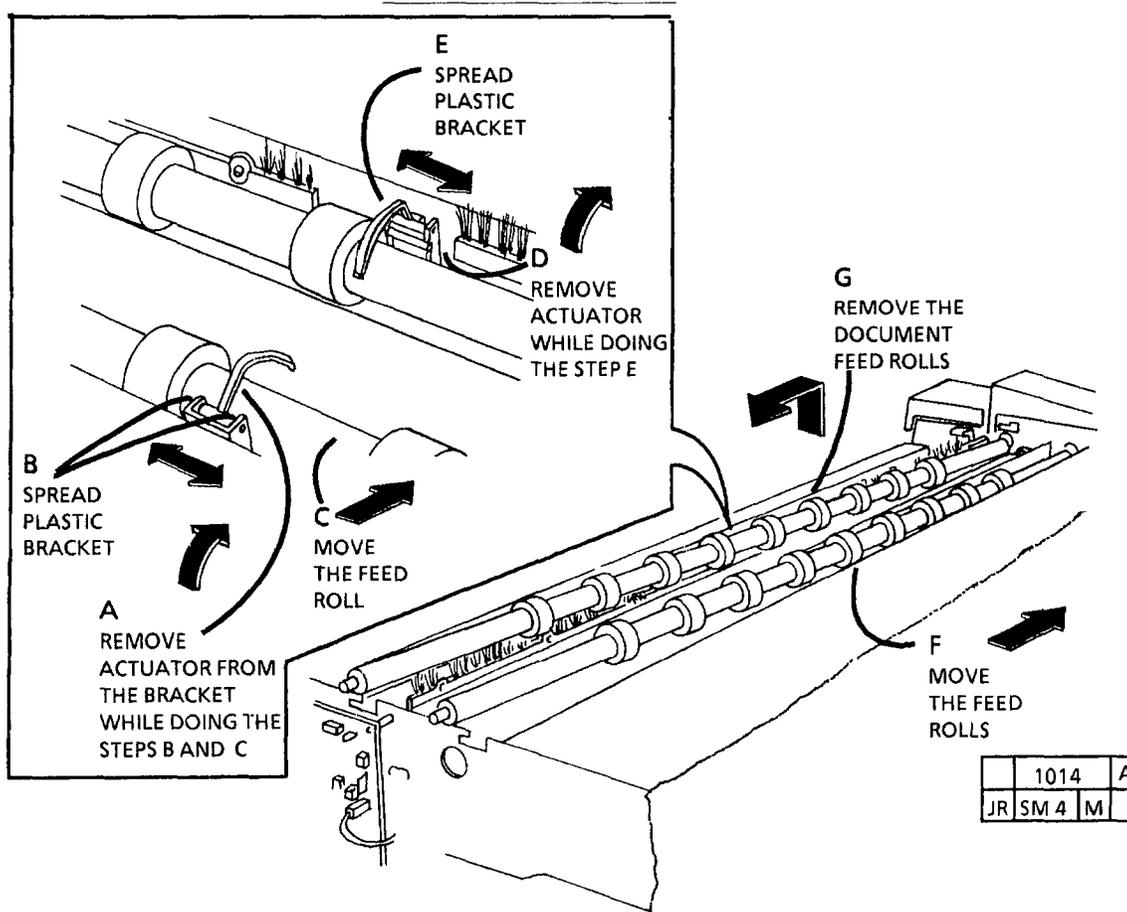

Figure 3. Remove the Lower Document Feed Roll
8. (FIGURE 3): REMOVE THE LOWER DOCUMENT FEED ROLL.